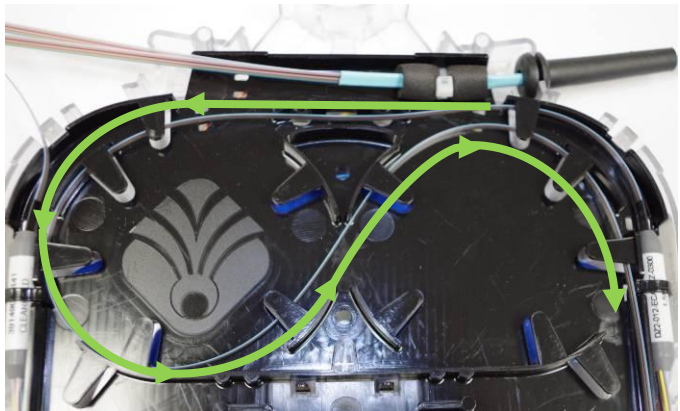

Figure 4
- Step 4:** Route the ribbon from transition B on the right of the cassette (viewed from the front) and preform a redirect S in the slack storage tray (**Figure 4**).